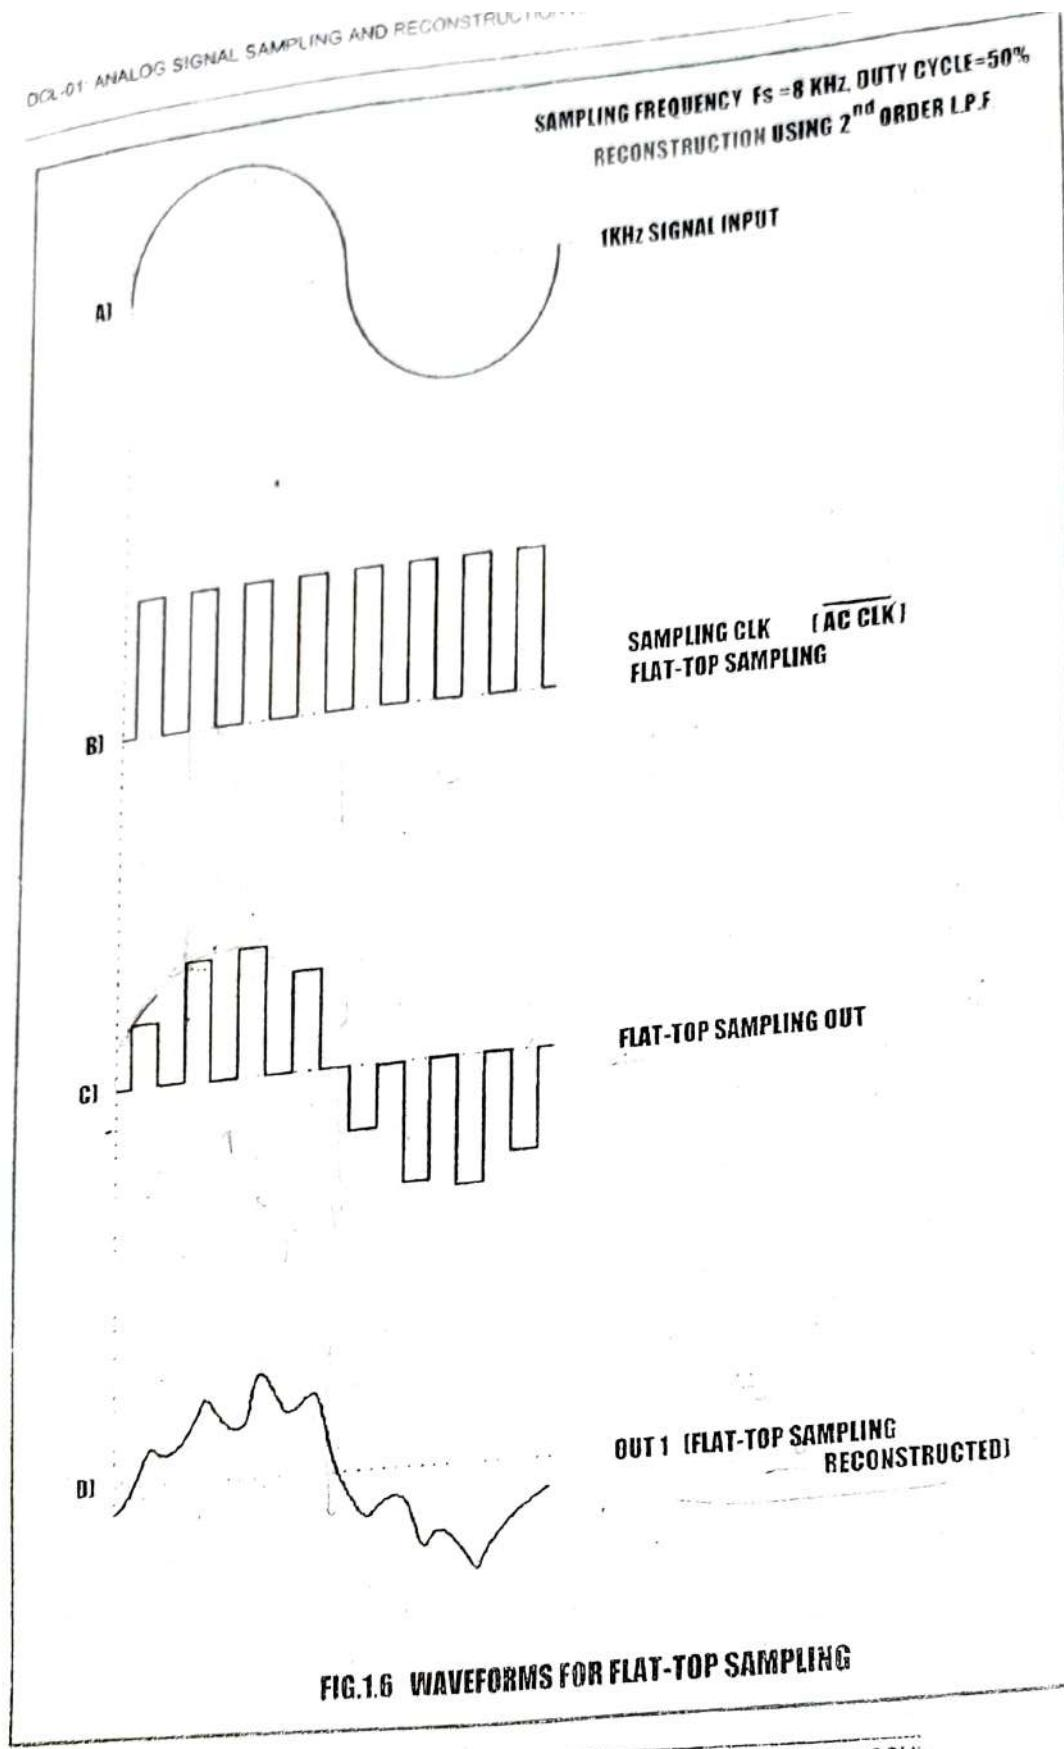

FIG.1.6 WAVEFORMS FOR FLAT-TOP SAMPLING
7. Connect the **OUT** post of the Flat top sampling block to the input **IN 1** of the 2nd Order Low Pass Butterworth Filter and take necessary observation as mentioned below. (Fig. 1.6).